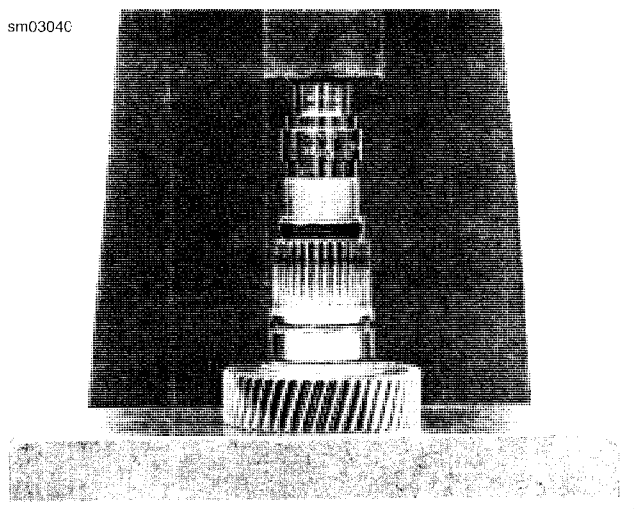

Figure 6-38. Installing Clutch Side Needle Bearing in Main Drive Gear
3. See Figure 6-38. Install clutch side needle bearing using an arbor press and the 0.400 in. step end of tool as shown. Press until tool contacts gear.